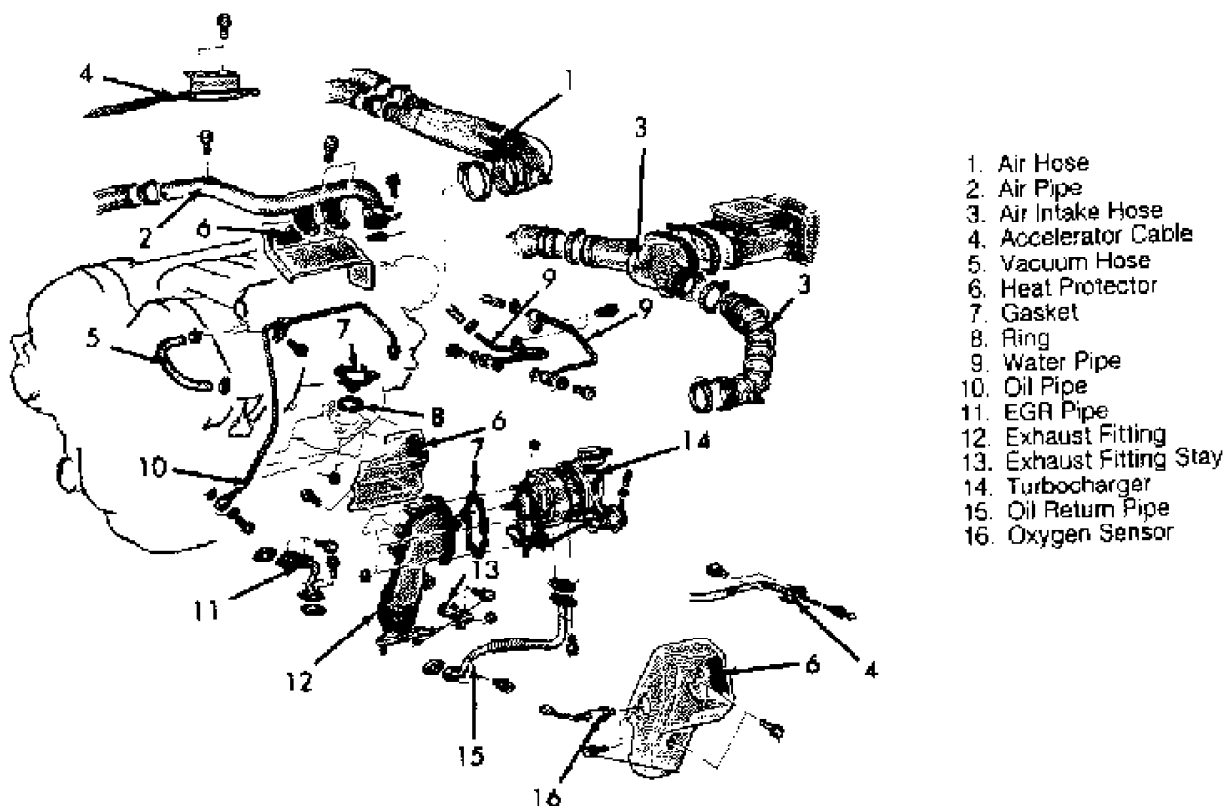

Fig. 11: Removing Rear Turbocharger (Stealth & 3000GT)
2) Remove oil pipe and EGR valve. Disconnect exhaust fitting and remove rear heat protector. Remove oil return pipe. Remove turbocharger assembly. See Fig. 11.